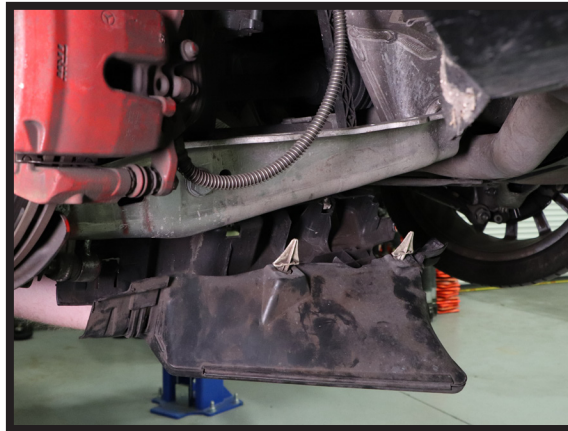

FIGURE 38
11. INSTALL THE CONTROL ARM COVER. (FIGURE 38)